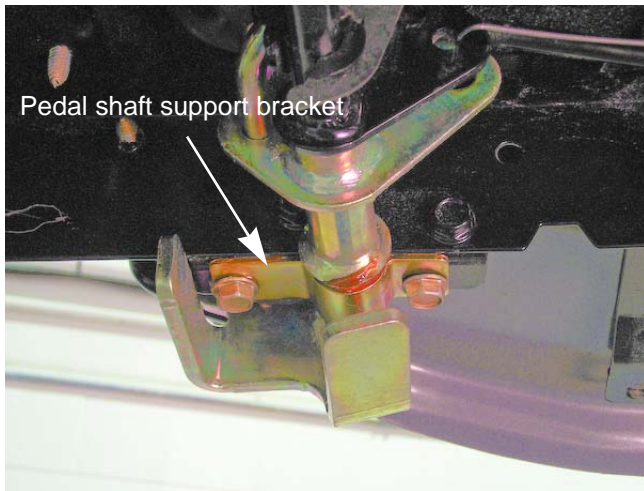

Figure 9.8
1. Loosen the two hex screws that secure the right side pedal shaft support to the frame using a 1/2" wrench. See Figure 9.8.